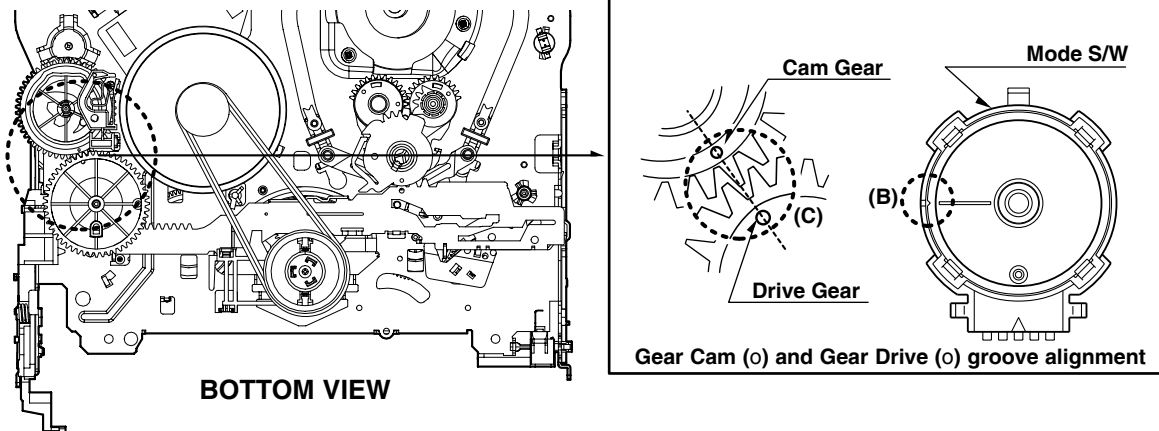

Fig. C-1
4) Remove the Screw which attaches the Deck Mechanism and Main Frame, confirm the Cam Gear is aligned with the Drive Gear as shown below in Fig. C-1 (A).
5) Confirm if the Mode S/W on the Main P.C. Board is aligned as shown below in Fig. C-1 (B).